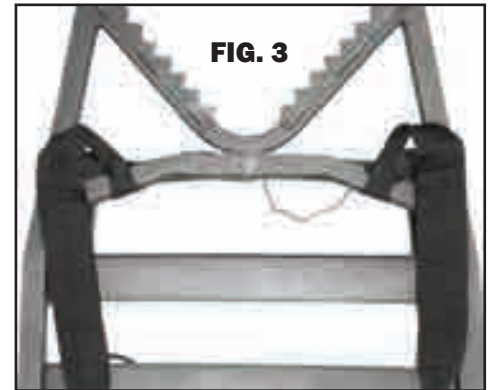

FIG. 3
3. Again, **LEAN** on front bar of Seat Platform and lift you feet to raise Foot Platform. Push down to set Foot Platform in raised position. **FIG.3**